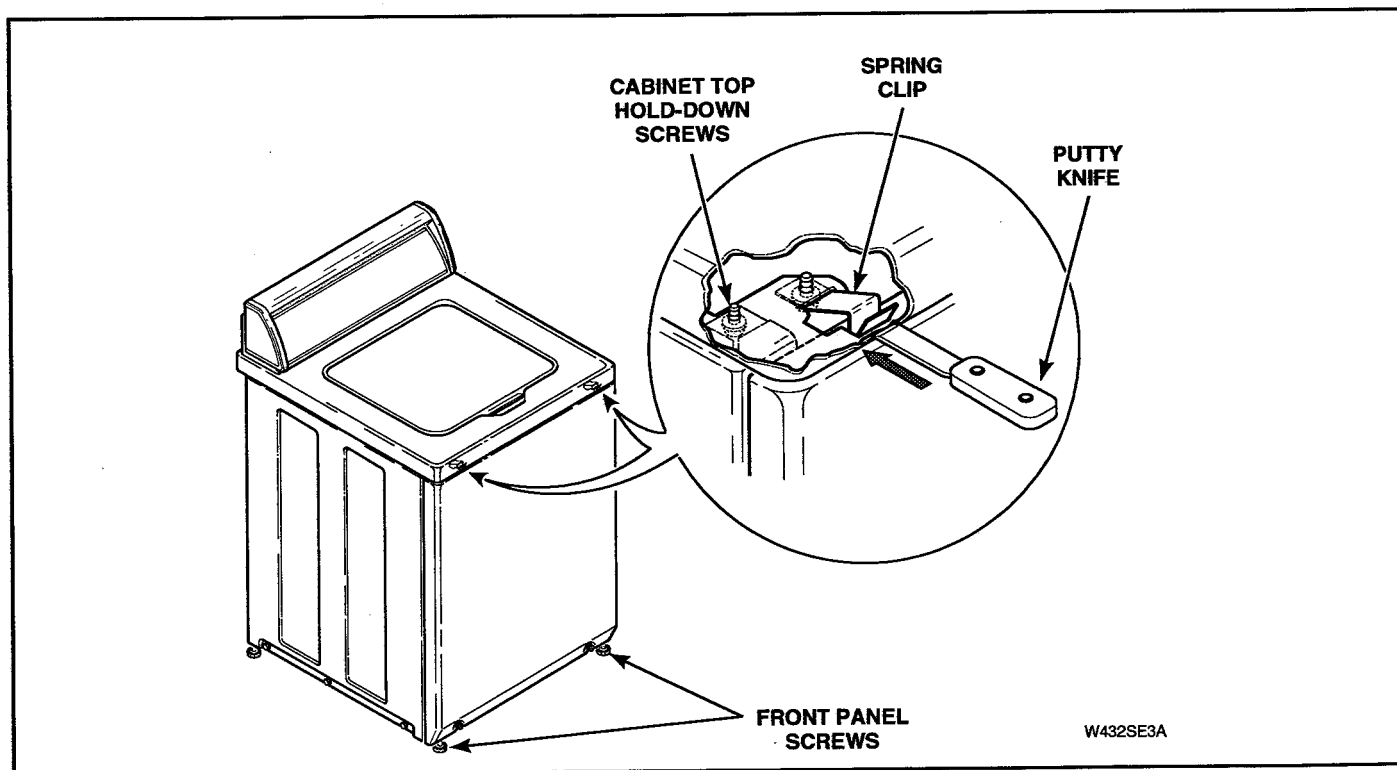

Figure 5-16
**NOTE:** Top edge of front panel is held in place by two spring clips located on bottom flange of cabinet top. See Figure 5-16.
- Insert putty knife between cabinet top and top edge of front panel (approximately three inches in from side). See Figure 5-16.
- a. Insert putty knife between cabinet top and top edge of front panel (approximately three inches in from side). See Figure 5-16.